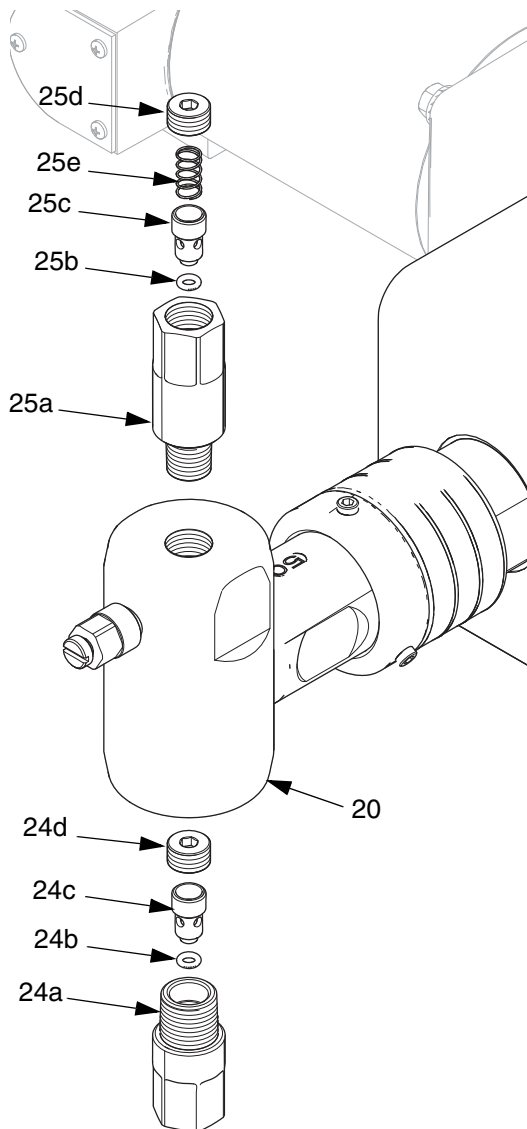

FIG. 27 Check Valve Repair
The following procedures apply to the check valves on both Wolverine Basic and Wolverine Advanced pumps. FIG. 27 shows the placement of the check valves on a Wolverine Advanced pump. On a Wolverine Basic pump, the outlet check valve (25), is on the side of the fluid cylinder.